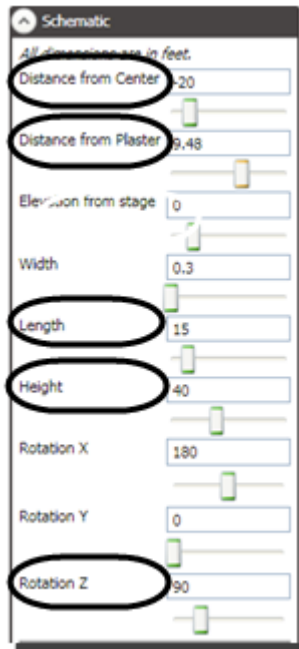
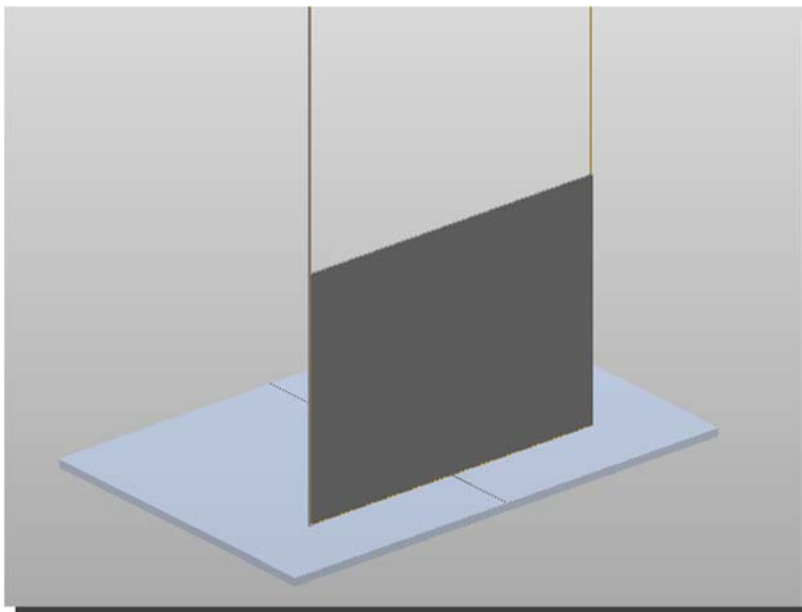

Figure 285
Figure 286
5. By adjusting the **Rotation Z**, **Distance from Center**, **Distance from Plaster**, **Length** and **Height** fields, you can change the horizontal traveler curtain into a vertical flying curtain (Figure 285 and Figure 286).